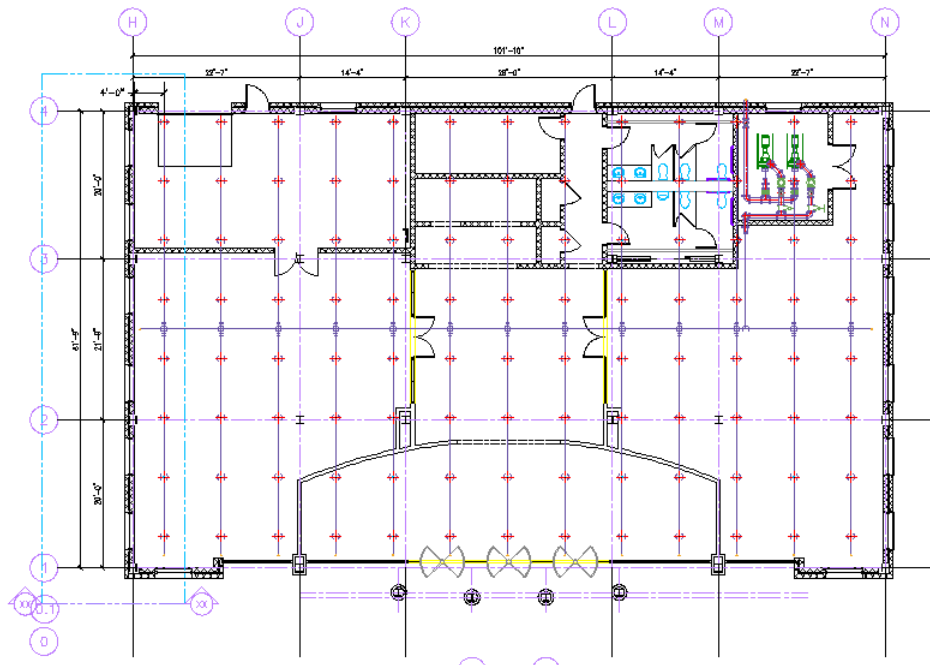

Figure 6.88
40. Drag out the array across the building and then click to complete it (see Figure 6.88).